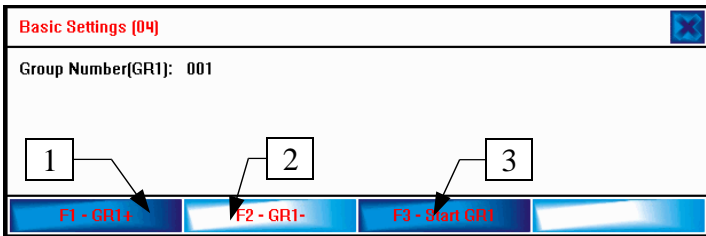
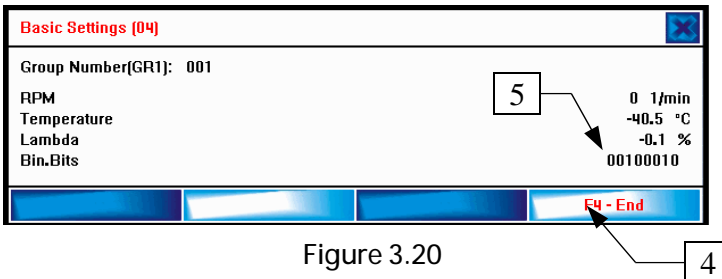

Figure 3.19
Figure 3.20
Function Basic Settings (Figure 3.19) enables resetting adjusted values in the electronic control unit and return it to it's original values. This function finds use when calibrating the throttle valve, when bleeding an ABS brake system or when calibrating the xenon light level adjustment.
First the desired group has to be selected using the GR+/GR- keys, as can be seen in Figure 3.19. If the group is selected you can start the initialization procedure with the Start GR1 button. The progress is indicated by the Bin. bits label in Figure 3.20. The progress is indicated by a sequence of ones and zeros or by a message ADP running / ADP OK. After completion, indicated by a defined 1 and 0 sequence or by displaying the ADP OK message on the screen you can exit the procedure by pressing the End button (5).